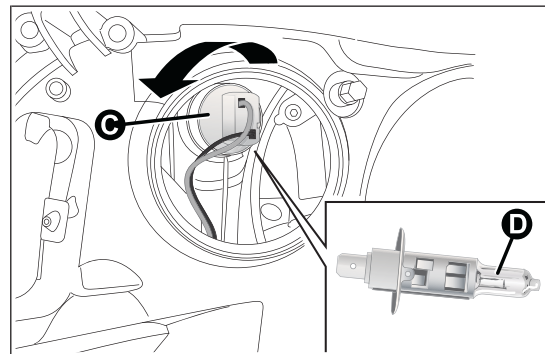

fig. 132
- turn the snap-fitted bulb holder unit C fig. 132 anticlockwise, remove bulb D and replace it;